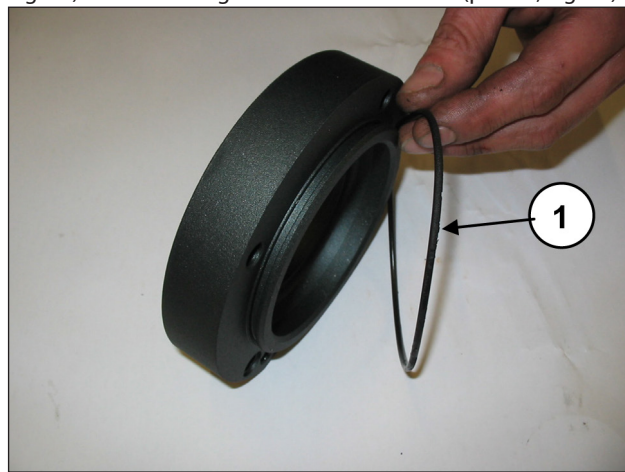
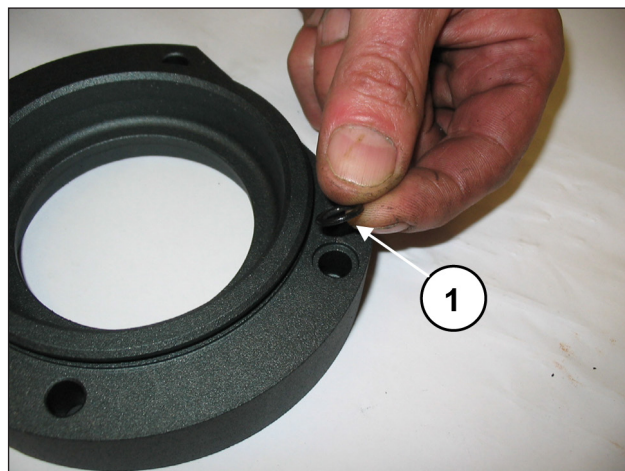

Fig. 65
Fig. 66
Apply to the PTO bearing covers: the external O-ring (pos. ①, Fig. 65) and the O-ring of the lubrication hole (pos. ①, Fig. 66).